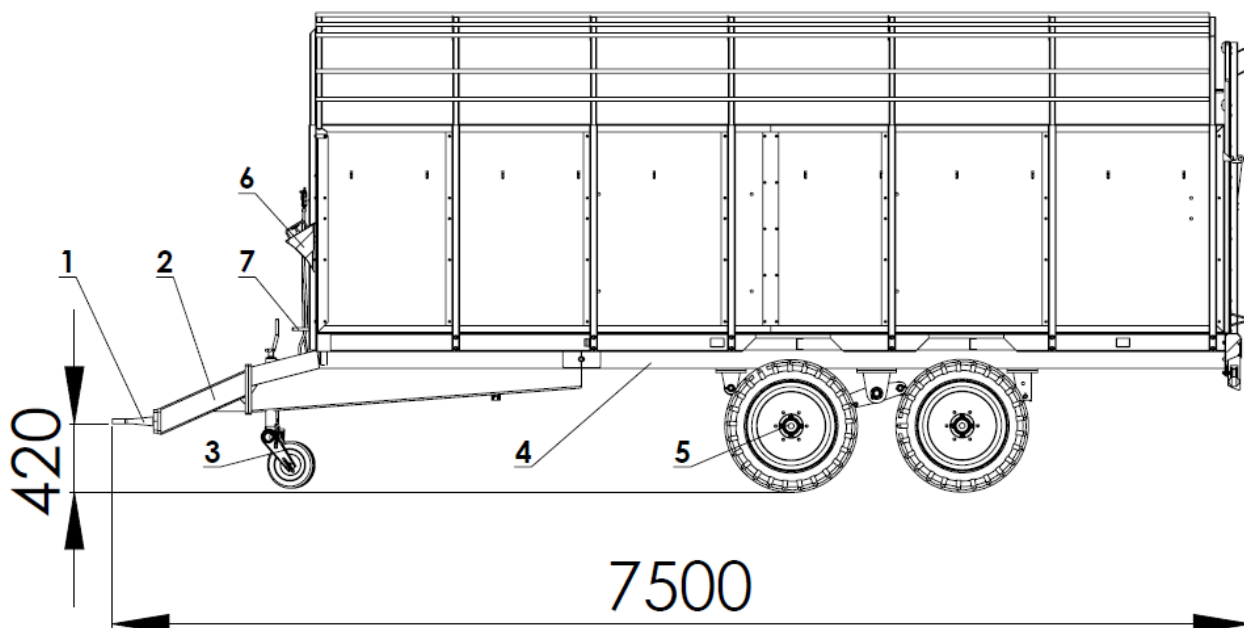

Fig. 2. T-678 trailer (view from side).
- The trailer is to be secured against rolling by wedges (item 6 fig. 2).
The chassis of the trailer consists of the following parts shown in figure 2.
The driving axle is made of a square bar ending with pivots, on which tapered roller bearings, and then wheel hubs, are mounted. These are single wheels equipped with shoe brakes activated by mechanical cam expanders. An adjustable drawbar (item 2 fig. 2) and support (item 3 fig. 2) are found in the front part of the frame. Drawbar fastening variants are presented in fig. 2.